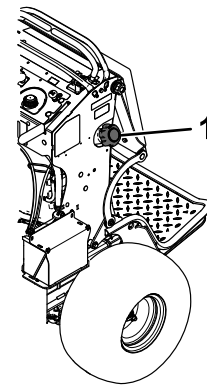

Figure 45
3. Clean around the fuel cap to prevent debris from getting into the fuel tank (Figure 45).